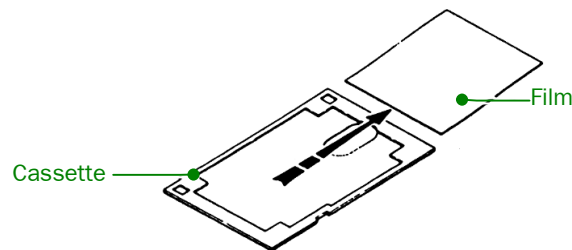

Fig. 5.51 Removing the film from the cassette
3. Carefully remove the film from the cassette ( Fig. 5.51).